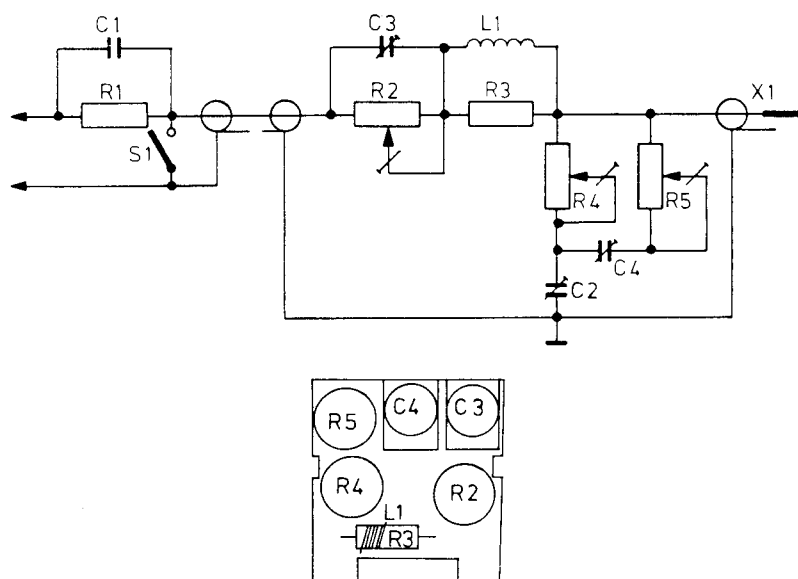

Fig. 3.32. Electrical parts
3.5.1.5.2. *Electrical parts (Fig. 3.32)*